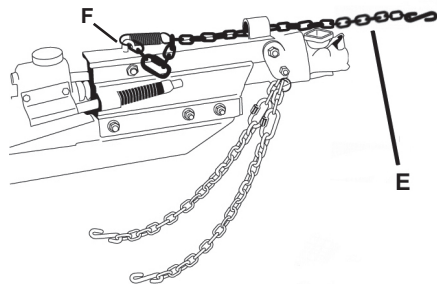

Figure 9
ATs with brakes have a third chain, called the emergency brake chain (E) (Figure 9). This chain applies the brakes automatically in the unlikely event of a separation of the AT from the tow vehicle. Attach this chain as close to the vehicle center as possible; to the tow vehicle permanent hitch, "D"-rings, frame or structure, or to the bumper brackets. The "S"-hook on this chain should be hooked to an
**⚠ NEVER** tow the AT unless the emergency brake lever (F) is in the fully rearward and down position. (Figure 9) See decals also, for proper position of emergency brake lever for towing. The emergency brake chain (E) is attached to the emergency brake lever (F) on top of the hydraulic brake mechanism. When the emergency brake chain is pulled forcefully, the emergency brake lever will move forward and lock, activating the AT brakes.